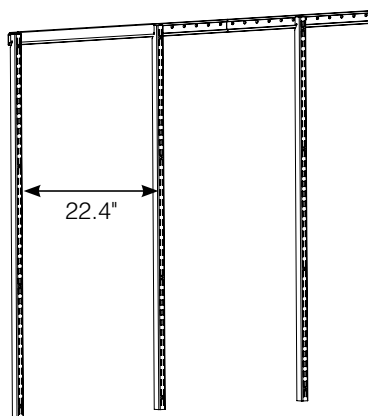

Figure 2
- (1) Pants Rack Kits
STEP 2: Starting from one side of the bay, hang a wall standard on the hang rail and use a hang rail cover to create the proper space between that and the next wall standard. Follow this method until all the wall standards are hanging from the hang rail (**Figure 2**).